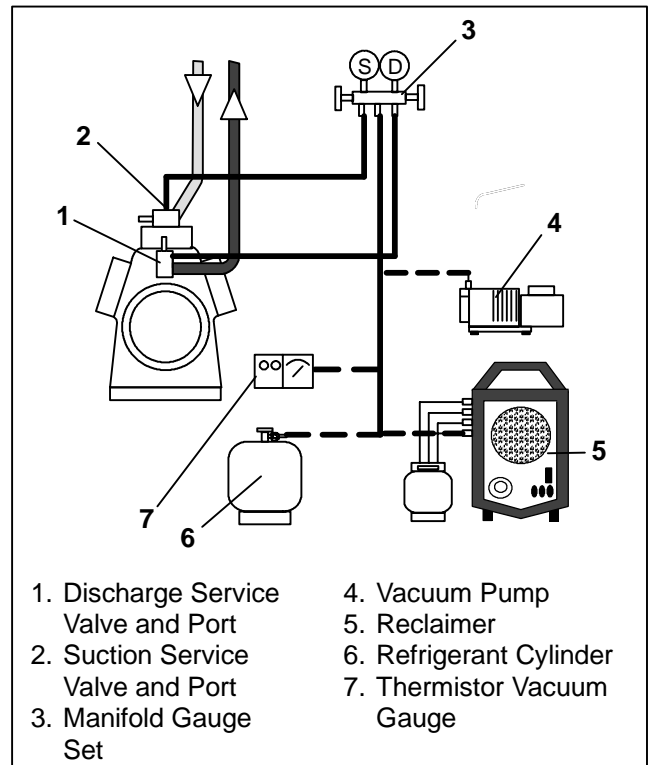

Figure 4-3. Compressor Service Connections
- a. Attach a manifold gauge set as shown in Figure 4-3 and isolate the compressor by front seating the suction and discharge valves.
- a. Install manifold gauge set. (See Figure 4-3)